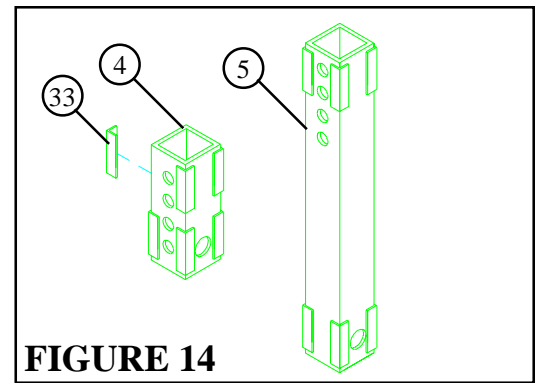

FIGURE 14
STEP 16: Attach eight 1-1/2" X 3/4" GLIDES (33) to 5" ROLLER PAD ADJUSTER (4) and attach eight 1-1/2" X 3/4" GLIDES (33) to 13-1/2" ROLLER PAD ADJUSTER (5) as shown in FIGURE 14.